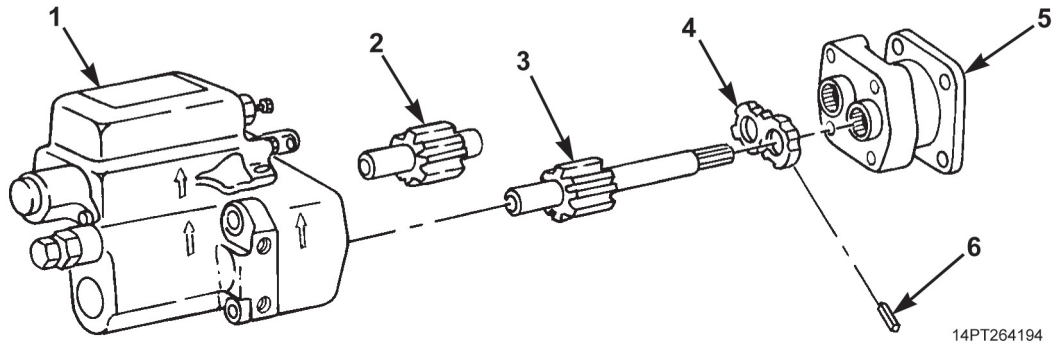

Figure 3. Drive Shaft Removal.
4. Place hydraulic pump on clean, flat surface and separate end housing (Figure 3, Item 5) from gear housing (Figure 3, Item 1).
5. Remove drive shaft (Figure 3, Item 3) and gearshaft (Figure 3, Item 2) from end housing (Figure 3, Item 5).
6. Remove thrust plate (Figure 3, Item 4) from end housing (Figure 3, Item 5). Remove six pocket seals (Figure 3, Item 6) from thrust plate. Discard pocket seals.